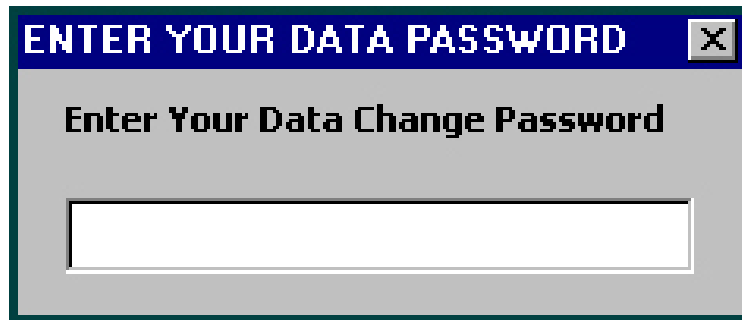

Figure 37
- 606 In the "Enter Your Data Change Password" field, enter your password. See Figure 37. Press the <Enter> key on the keyboard.